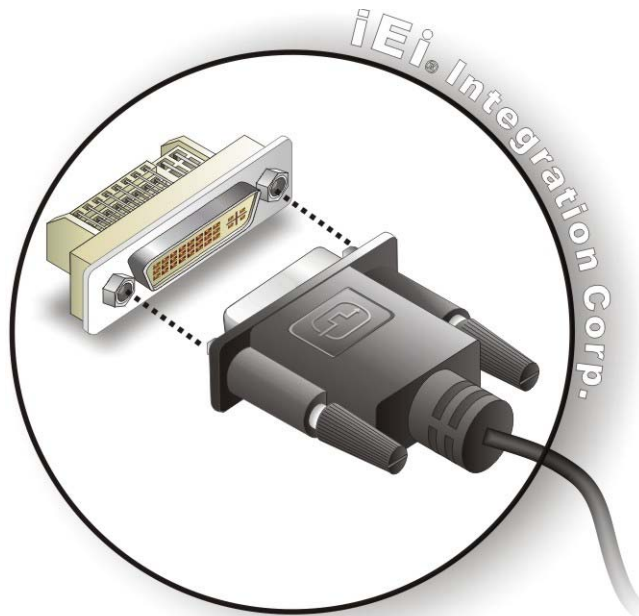

Figure 4-14: DVI Connector
- Step 3:** **Insert the DVI-I connector** Once the connectors are properly aligned with the male connector, insert the male connector from the digital display device into the female connector on the IMBA-C2060. See Figure 4-14.